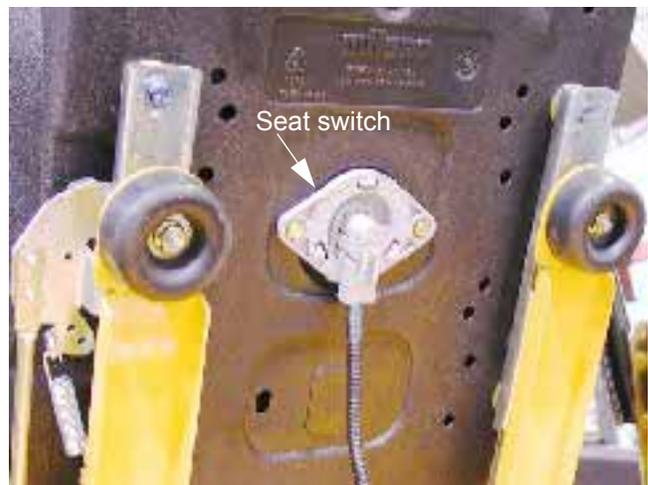

Figure 10.1
- 10.1. The Seat Safety Switch is located in the seat assembly. The contacts in the switch are normally closed (N.C.). When the seat is unoccupied, the contacts close, energizing relay #2 and relay #3. When relay #2 is energized, and relay #1 is energized by the release of the parking brake, a ground path is completed to the magneto, turning off the engine. See Figure 10.1.